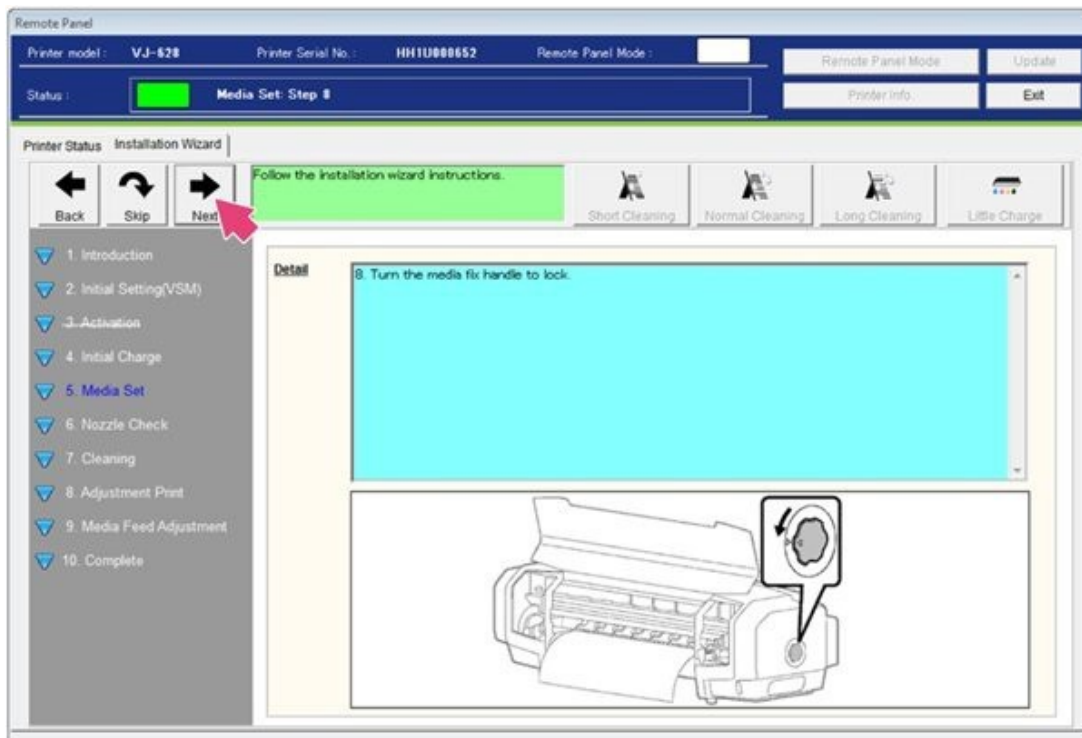

Figure 71
58. Turn the media fix handle to lock; then select **Next**. See Figure 71.